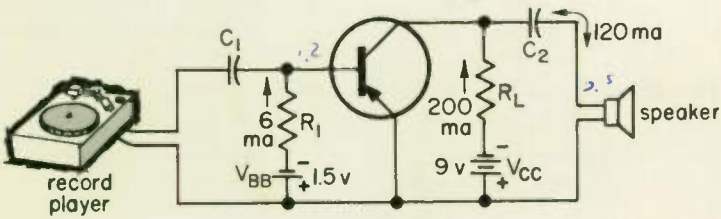

Fig. 48
28. The output signal from the record player in Fig. 48 is 3 ma at 0.2 volt. The signal voltage across the speaker is 2.5 volts. Other data is given in the figure. What is the voltage amplification between record player and speaker?
- (1) 0.08
- (2) 0.5
- (3) 1.8
- ④ 12.5
- (5) 45
- (6) None of the above.
29. What is the current amplification between record player and speaker in Fig. 48?
- (1) 24
- (2) 33.3
- ③ 40
- (4) 360
- (5) 600
- (6) 1200
- (7) None of the above.
30. What is the power used by the speaker in Fig. 48?
- (1) 0.03 watt
- (2) 1.8 watts
- ③ 300 milliwatts
- (4) 30 watts
- (5) 300 watts
31. What is the power gain between record player and speaker in Fig. 48?
- (1) useful signal power output to signal power input.
(2) useful voltage output to signal voltage input.
(3) useful signal current output to signal current input.
(4) useful signal power output to total power input.
33. The total d-c power input (which can be assumed to be the power furnished by the two batteries) for the stage of Fig. 48 is
- (1) 206 milliwatts (4) 10.5 watts
(2) 1.809 watts. (5) 1809 watts.
(3) 2.163 watts. (6) None of the above.